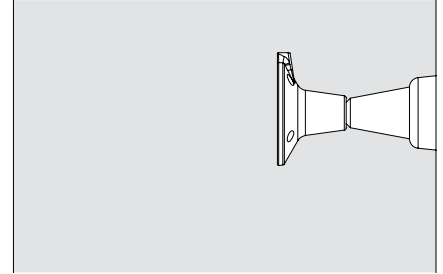

Fig. A2.04b
- Screw-On Cone-2 M24/DW 20 (Fig. A2.04b)